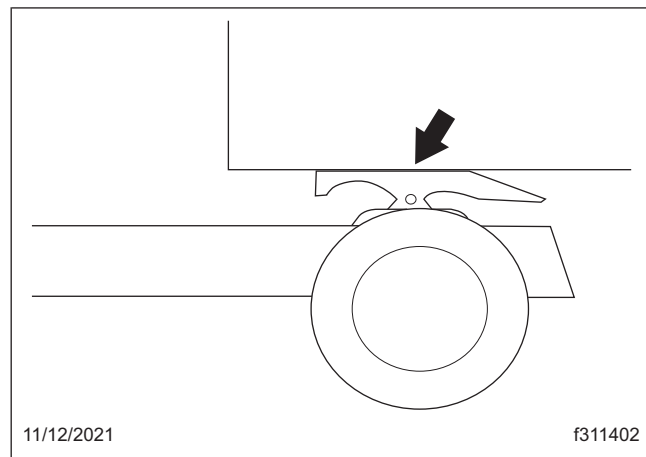

Fig. 17.12, No Gap Between Fifth Wheel and Trailer
- Verify that there is no gap between the bottom of the trailer and the fifth wheel as shown in Fig. 17.12.